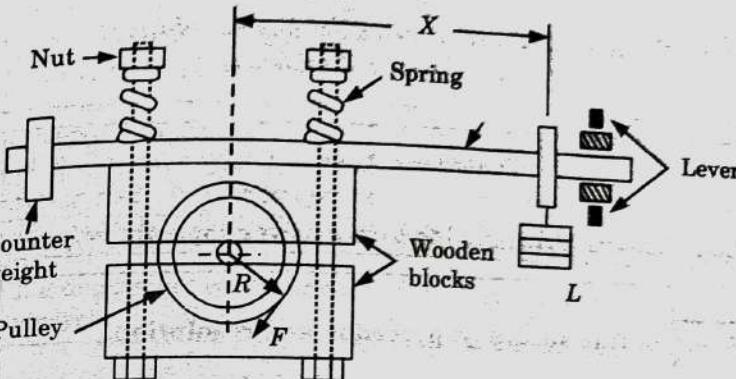

Fig. 4.17.1. Prony brake dynamometer.
- It consists of two wooden blocks, placed around a pulley of radius r as shown in Fig. 4.17.1.